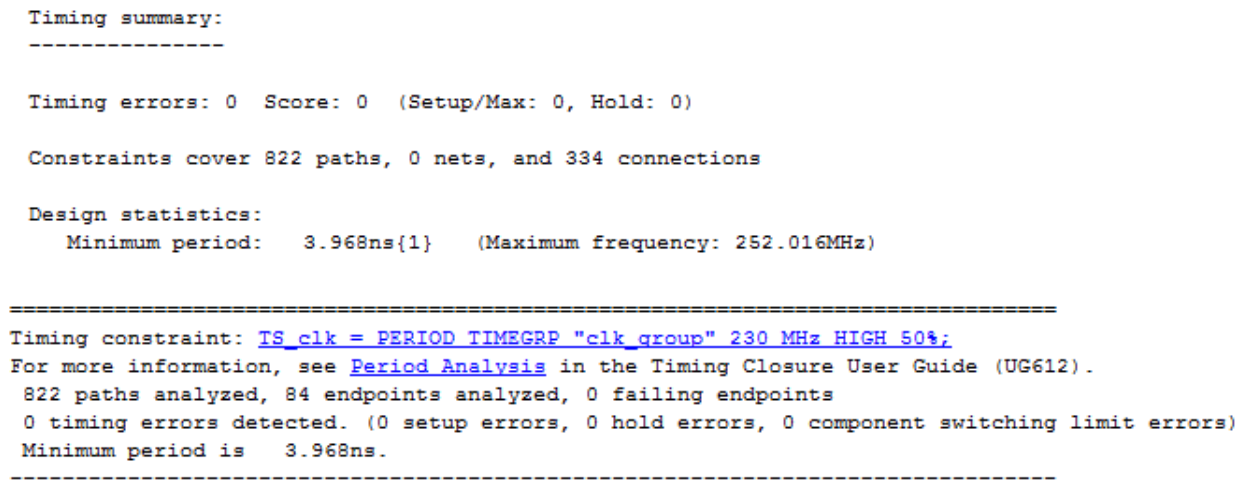

Figure 12: Timing Results
-Timing Results (Figure 12):
The stimulus text file is shown in Figure 12: